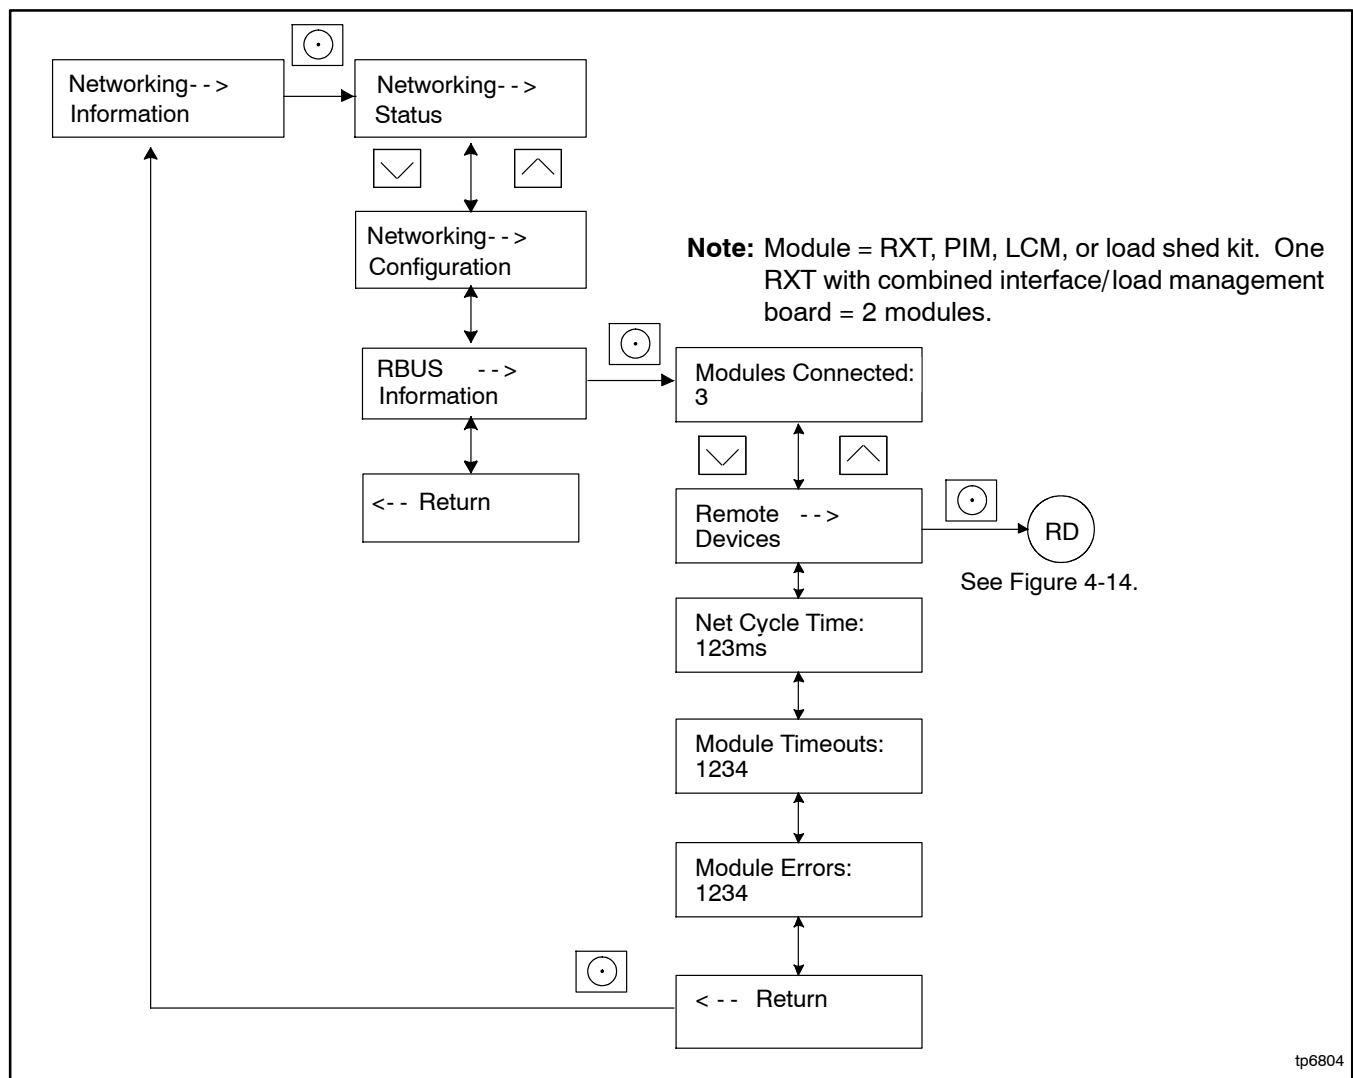
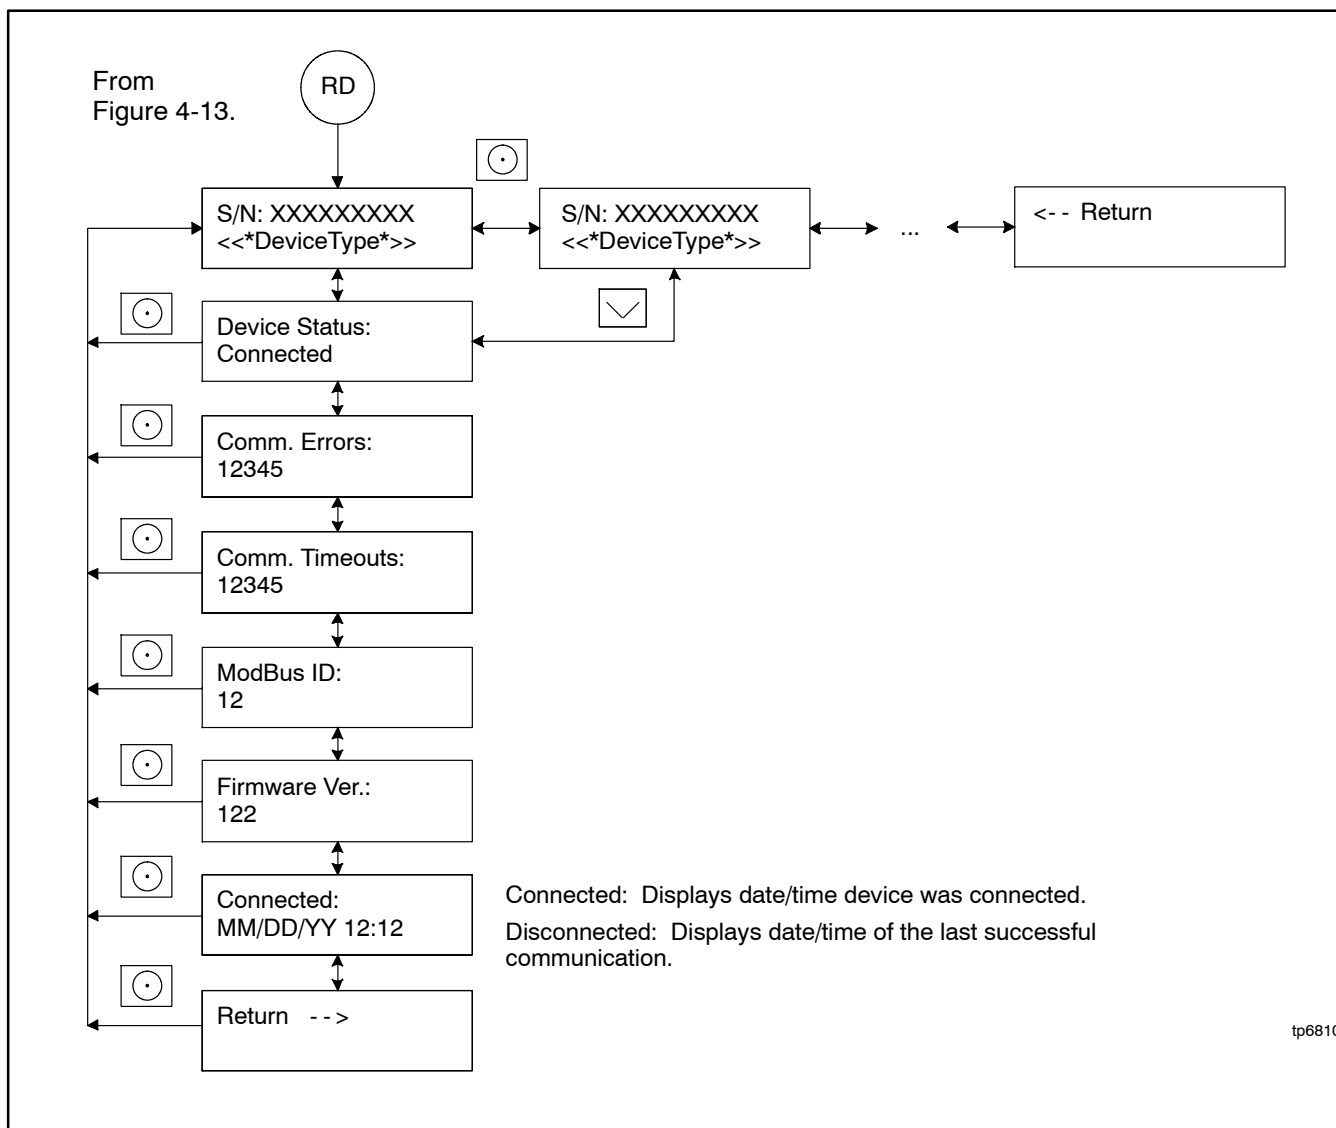

Figure 4-13 RDC2 Controller Menu, Networking Information
Figure 4-14 RDC2 Remote Devices Submenu
1. On the RDC2 controller, navigate to the Networking Menu and check the number of modules connected and the information for remote devices. See Figure 4-13 and Figure 4-14. The number should equal the number of RBUS devices connected, including the load shed kit or combined interface/load management board, RXT transfer